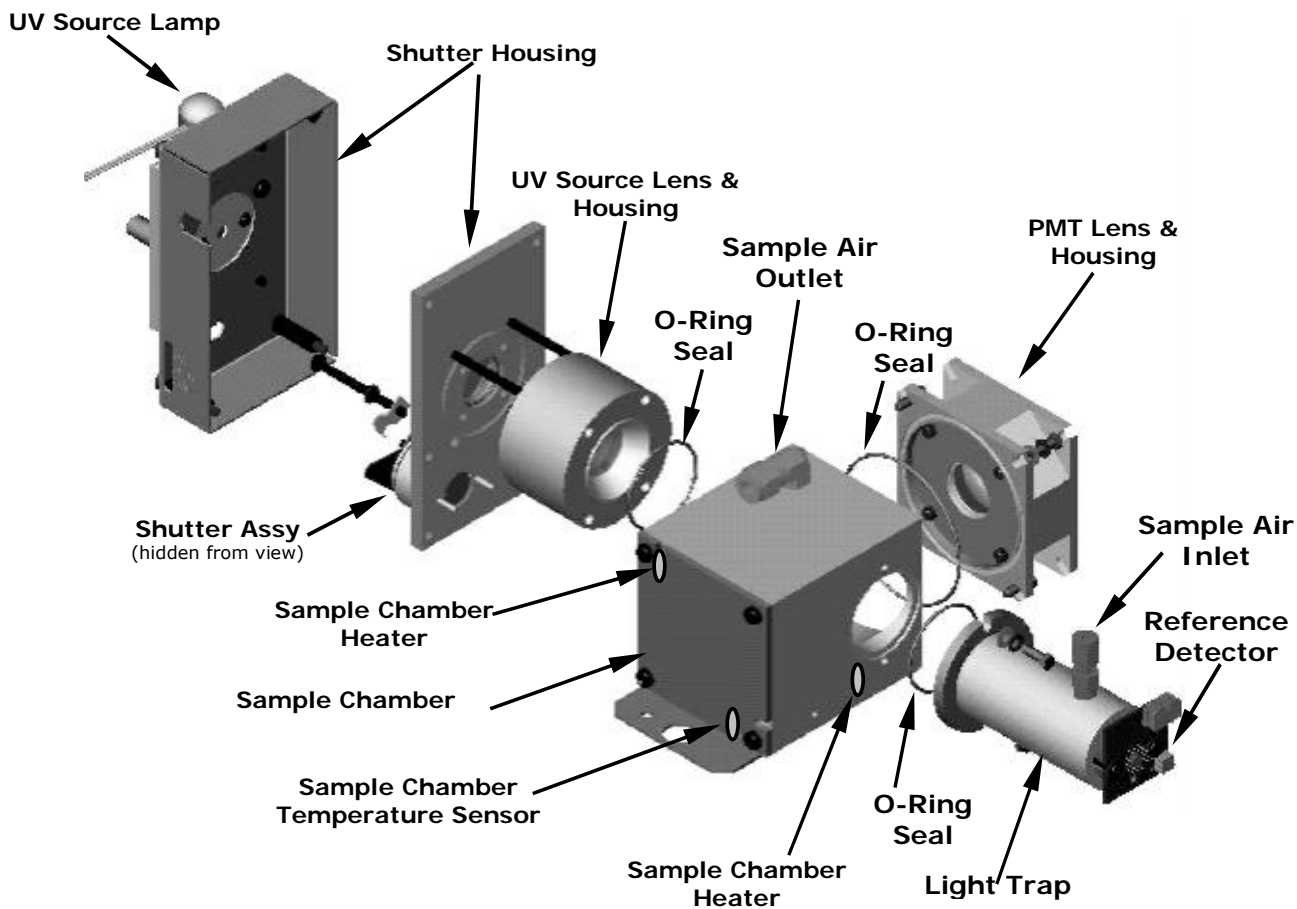

Figure 9-3: M102E Sample Chamber
- Figure 9-3 shows an exploded view of the sample chamber assembly